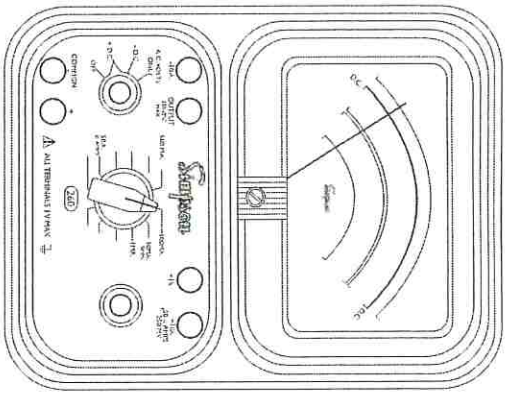

FIGURE 4-11. Jacks and Switch Positions for Measuring Direct Current
- Set the function switch at +DC (Figure 4-11).